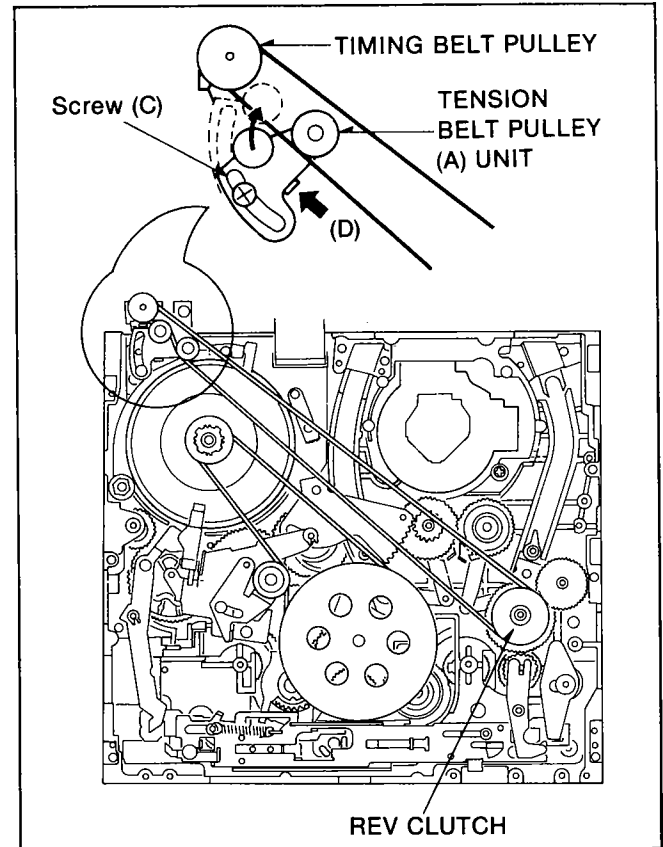

Figure M25
1. Loosen a screw (C) by using the screwdriver.
2. Set the Fan Type Tension Gauge to the direction indicated by arrow (D) as shown in Figure M25.
3. Tighten a screw (C) when the reading of the Fan Type Tension Gauge becomes within 255 +/- 25g.